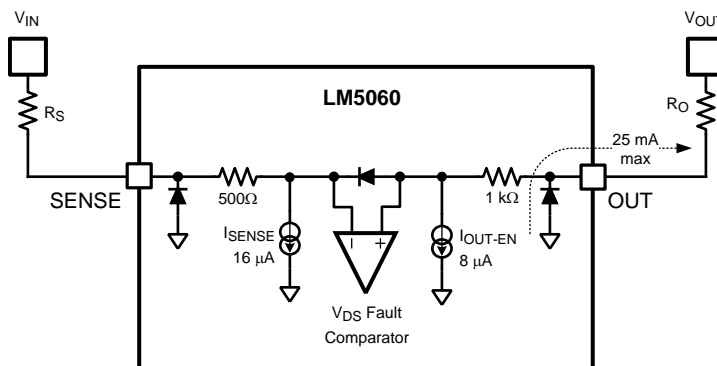

Figure 37. Current Limiting Resistor for Negative OUT Conditions
**Case D** for situations where  $V_{OUT} < V_{IN}$ , while  $V_{OUT}$  is negative and  $V_{IN}$  is positive. See Figure 37.  $R_O$  needs to be selected to protect the OUT pin from currents exceeding 25 mA.